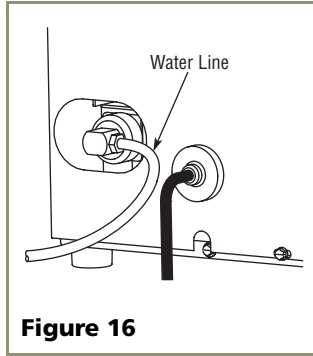

Figure 16
3. Carefully bend the water supply line into position and connect the line to the solenoid valve (see **Figure 16**). Avoid kinking the water supply line.